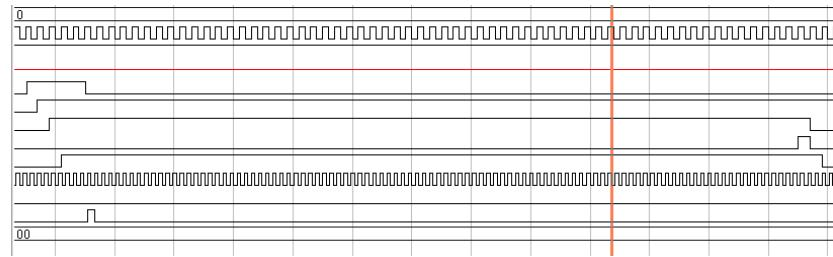

Figure 3-6: Input Intr - Level Sensitive (High), Output IRQ - Edge Sensitive (Rising), C_HAS_FAST = 0
- Configured Input Interrupt (Intr) for Level sensitive (active-High), Output Interrupt Request (IRQ) to Edge sensitive (Rising), disabled fast interrupt logic (C_HAS_FAST = 0). Timing diagram is shown in Figure 3-6.